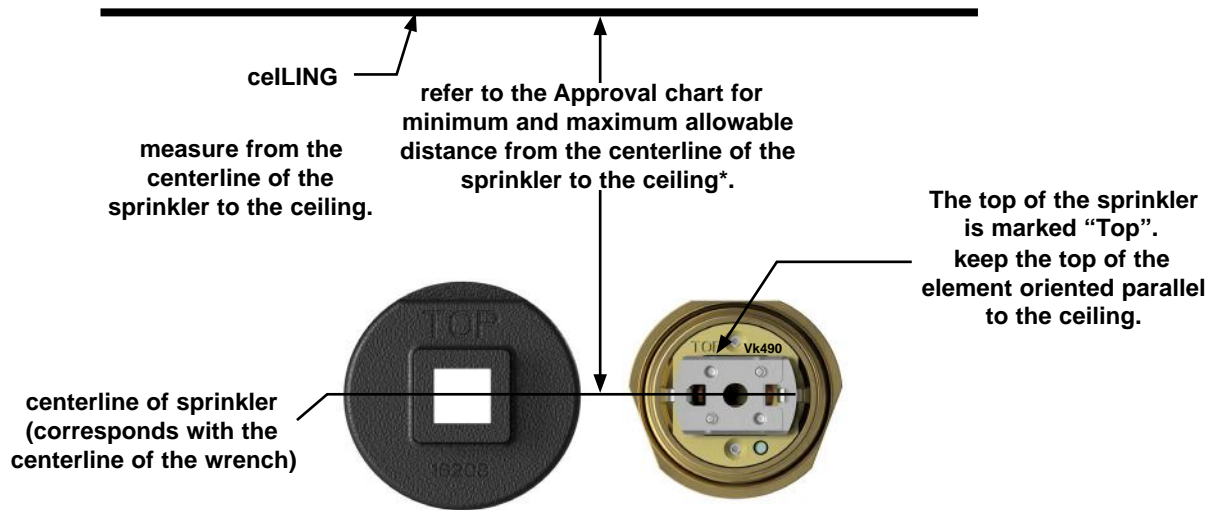

figure 3: Sprinkler Vk490 correct deflector orientation
- **The T op of The SprINKLer body ANd The T op of The INSTALLATIoN wreNch Are mArked “T op”.** Orient the top of the sprinkler element parallel with the ceiling as shown in Figure 3.